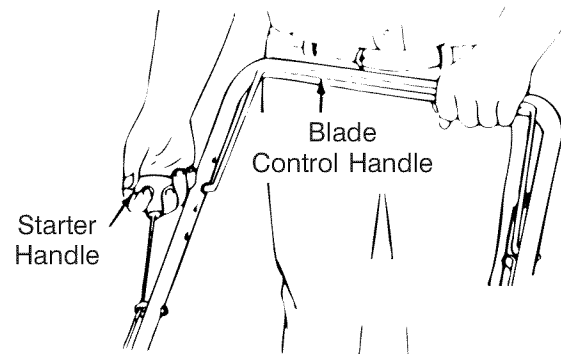

Figure 11
- Standing behind the unit, depress the blade control handle and hold it against the upper handle as shown in Figure 11.
- Grasp the starter handle as shown and pull slowly until resistance is felt, then pull rapidly to start engine and avoid kickback. Return it slowly to the rope guide. See Figure 11.